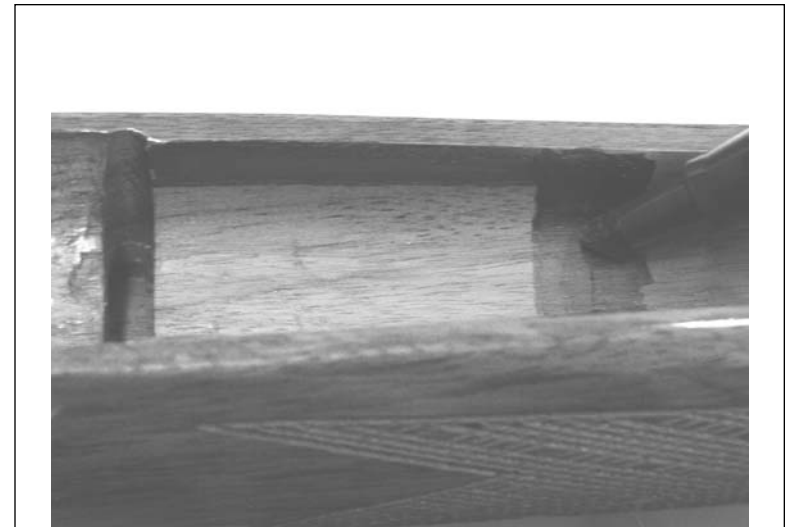

Figure 6B: Color the areas you don't want to remove material from.
7. Color the areas from the top of the stock to the lines with the marker. (See Figure 6B).